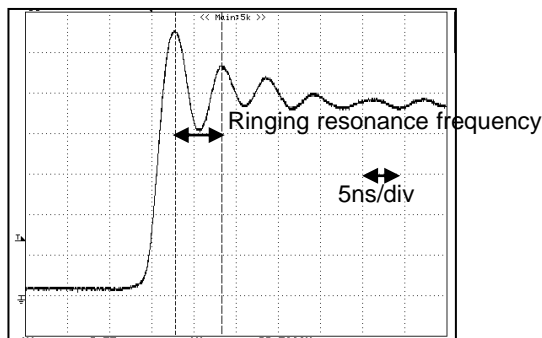

Figure 76. PWM Output waveform
1. Measure the ringing resonance frequency " f_1 " of PWM output waveform (when rising) by using low capacitance Probe (e.g. FET probe) at the OUT terminal. (Figure 76)